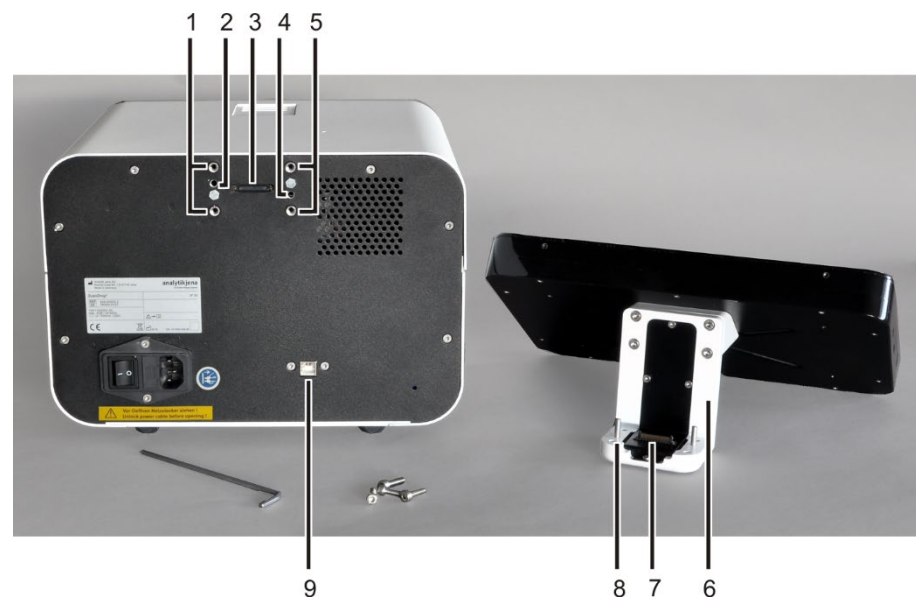

Fig. 18 Mounting the tablet to the ScanDrop²
2. Detach the USB cable from the port on the rear of the ScanDrop² (9 in Fig. 18).
3. Remove the protective cap covering the port for the tablet (3). To do so, undo the four hexagon socket screws. Keep the protective cap for future use.
4. Place the tablet with support bracket (6) on top of the ScanDrop², inserting the two guide pins (8) into the round holes in the casing (2, 4). Push the support bracket towards the device until it is flush with the rear wall.